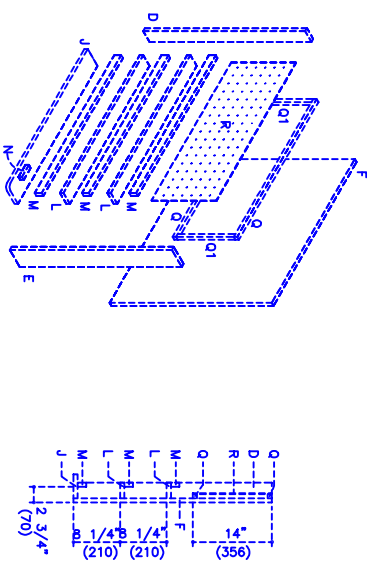
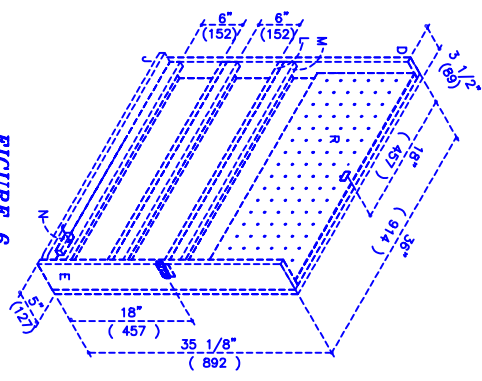
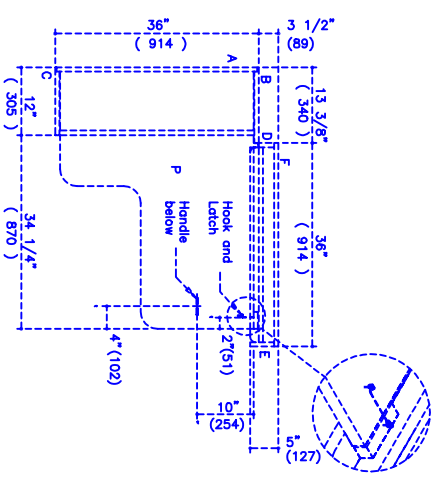

FIGURE 5
FIGURE 6
FIGURE 7
- 4) Make the two LM shelf assemblies by gluing the edge of M and nailing through pieces L into pieces M as shown with 1 1/2" finishing nails (Fig 5). Glue one edge of piece M, draw a line 2" from the unrounded edge of piece J, (on the back of J), turn the piece over on top of M, and nail J to M, using 1 1/2" nails. Nail pieces Q and Q1 to piece F with 1 1/4" finishing nails. These pieces are to provide space behind your pegboard. Glue and nail pieces D and E to F with 1 1/2" finishing nails and nail the JM assembly flush with the back of F with 1 1/4" nails as shown (Fig 6). Glue and nail on the main assembly R with 1 1/4" nails. Ensure the door fits snugly into the main assembly, trim as necessary if it is too tight. Attach the door to the main assembly with the piano hinge already attached to B as shown (Fig 7). Pre-drill, glue and nail on spacer N to JM with 1 1/4" nails, flush with end of P when opened (Fig 7). Wipe off excess glue.